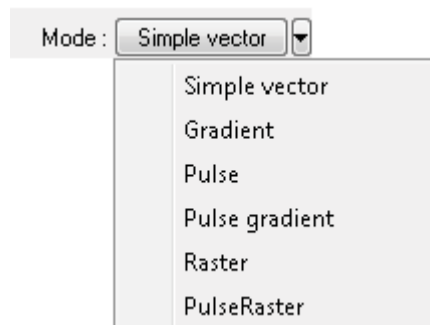

Fig. 13-27. Selecting the lithography mode
6. In the **Mode** drop-down list, select a desired option of raster lithography (Fig. 13-27). Two options of raster lithography are available: